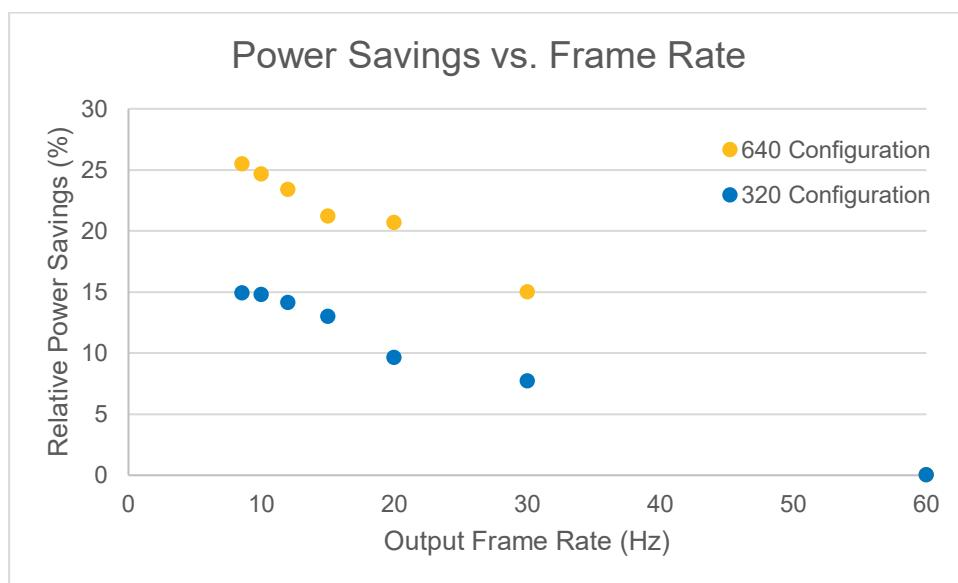

FIGURE 70: POWER SAVINGS AS A FUNCTION OF FRAME RATE
- Whether the frame skip function is enabled; disabled for measurements below (Figure 70)